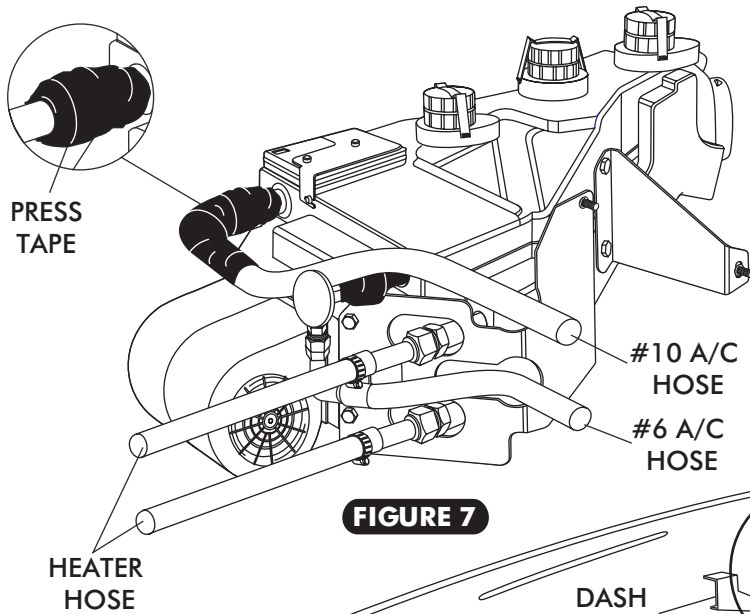
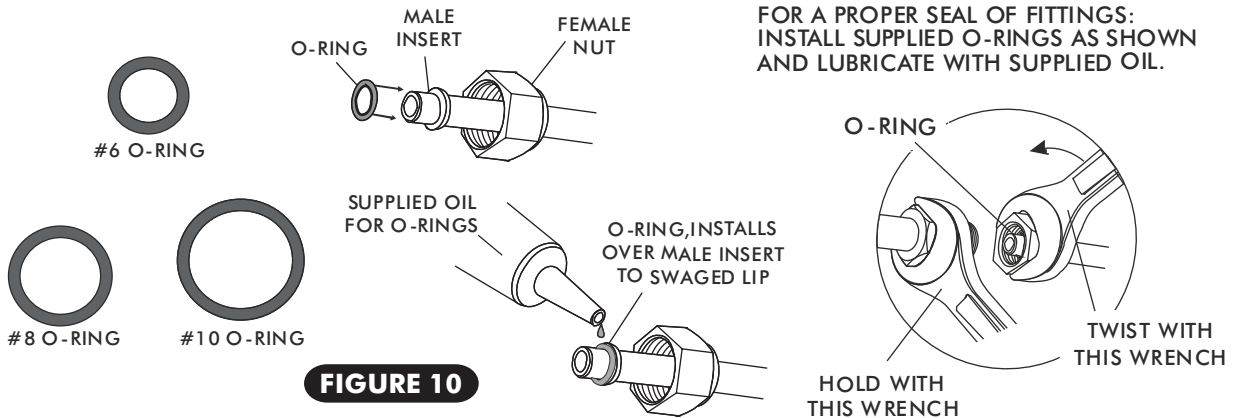
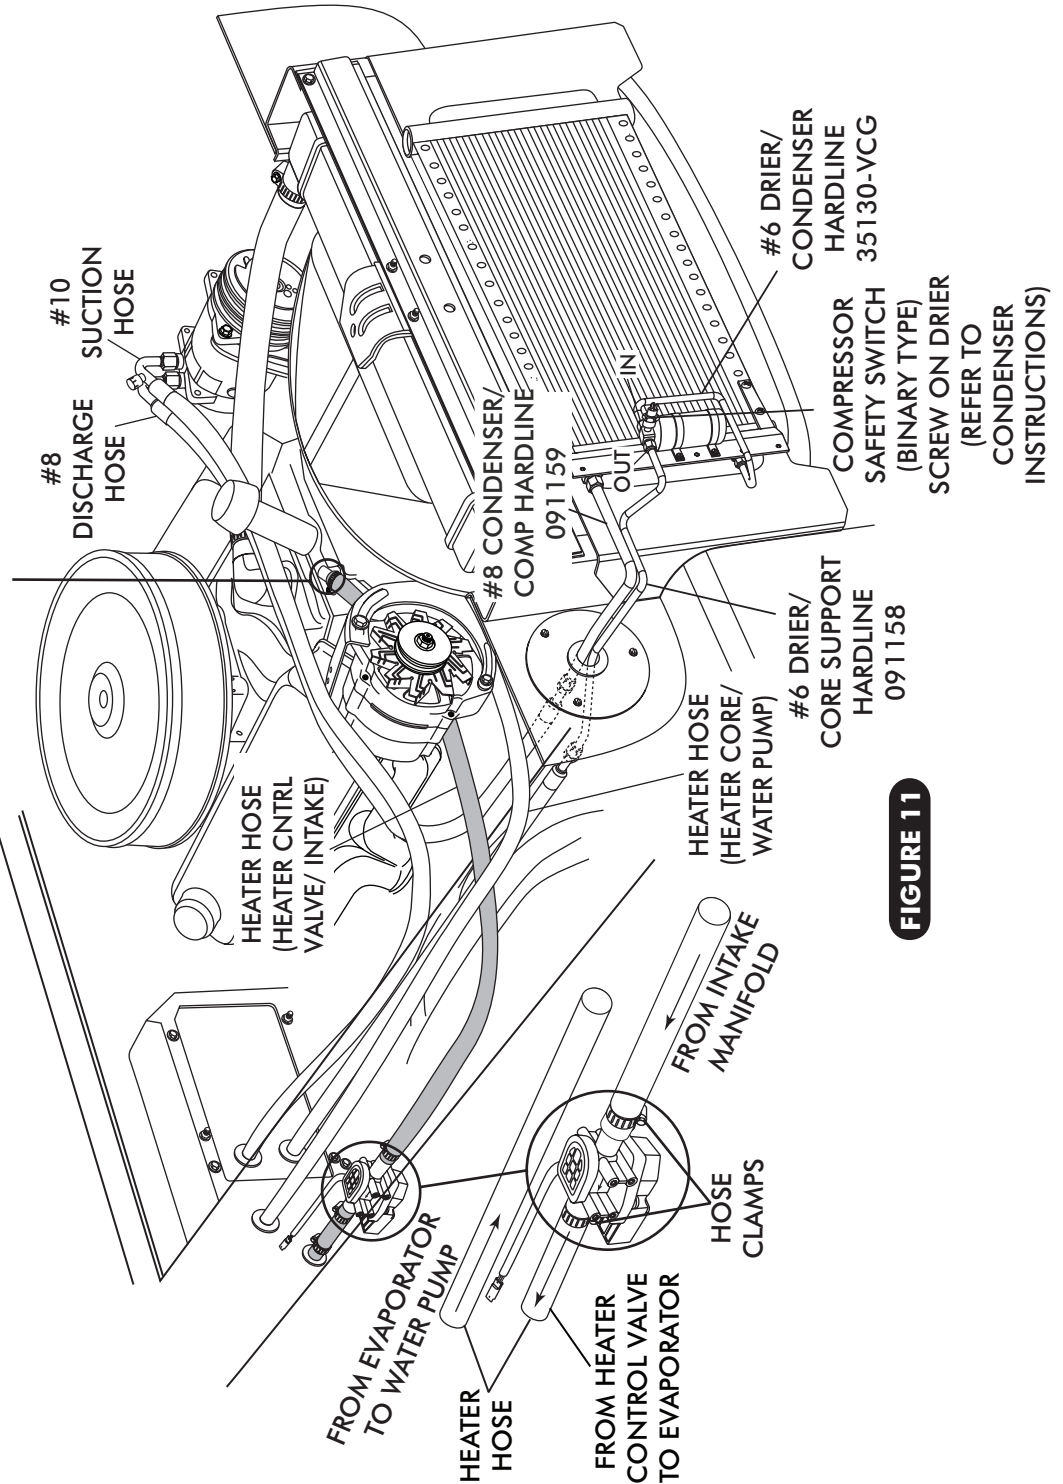
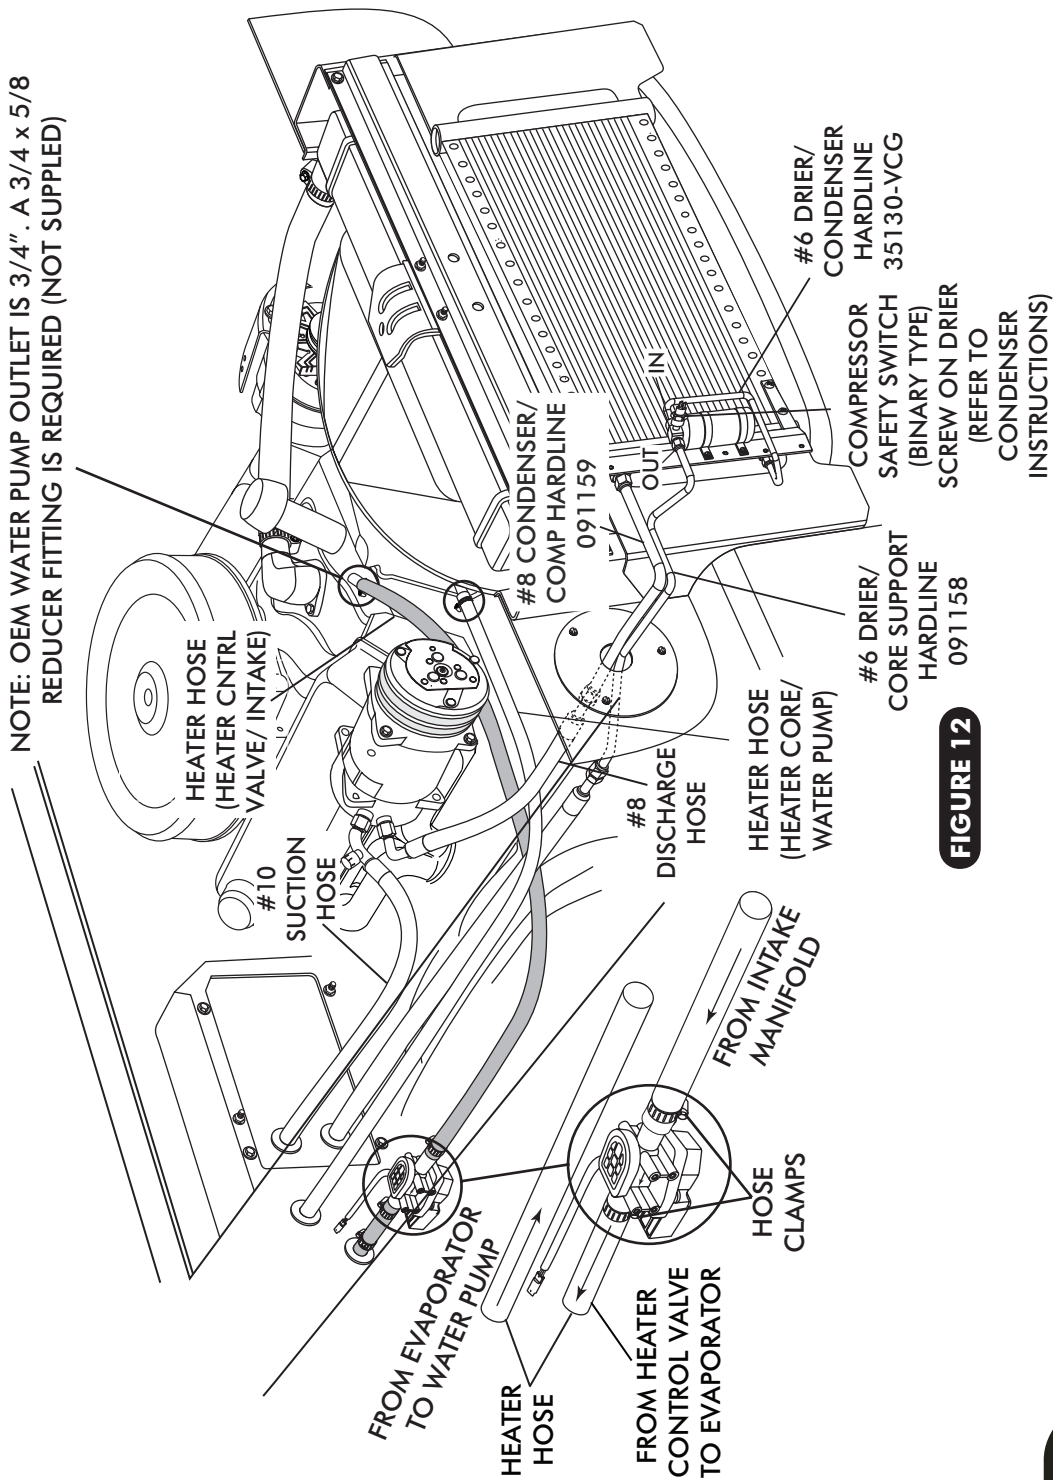

FIGURE 7
FIGURE 10
FIGURE 11
FIGURE 12
- ON A WORK BENCH INSTALL (2) HEATER FITTINGS WITH PROPERLY LUBRICATED O-RINGS. (SEE FIGURE 10, PAGE 12, AND FIGURE 6, PAGE 10.)
- LAY EVAPORATOR SUBCASE ON PASSENGER SIDE FLOOR BOARD. INSTALL A/C & HEATER HOSE ON EVAPORATOR AS SHOWN IN FIGURE 7, PAGE 11 AND HOSE INSTALLATION ON PAGE 13 AND PAGE 14.
- **(NOTE: WRAP THE #10 FITTING CONNECTIONS WITH PRESS TAPE. SEE FIGURE 7, PAGE 11.)**
- LOCATE THE #8 COMPRESSOR A/C HOSE. LUBRICATE (2) #8 O-RINGS (SEE FIGURE 10, ABOVE) AND CONNECT THE 90° FEMALE FITTING TO THE #8 DISCHARGE PORT ON THE COMPRESSOR. ROUTE THE STR FEMALE FITTING w/ 134a SERVICE PORT TO THE #8 CONDENSER HARDLINE COMING THROUGH CORE SUPPORT. SEE FIGURE 11 PAGE 13 AND FIGURE 12 PAGE 14. TIGHTEN EACH FITTING CONNECTION AS SHOWN IN FIGURE 10 ABOVE.
- LOCATE THE #10 COMPRESSOR A/C HOSE. LUBRICATE (2) #10 O-RINGS (SEE FIGURE 10, ABOVE) AND CONNECT THE #10 135° FEMALE FITTING w/134a SERVICE PORT TO THE #10 SUCTION PORT ON THE COMPRESSOR. ROUTE THE 135° FEMALE FITTING TO THE #10 EVAPORATOR. SEE FIGURE 11, PAGE 13 AND FIGURE 12, PAGE 14. TIGHTEN EACH FITTING CONNECTION AS SHOWN IN 10 ABOVE.
- LOCATE THE #6 EVAPORATOR A/C HOSE. LUBRICATE (2) #6 O-RINGS (SEE FIGURE 10, ABOVE) AND CONNECT THE STR FEMALE FITTING TO THE DRIER. ROUTE THE 90° FEMALE FITTING TO THE #6 EVAPORATOR. SEE FIGURE 11, PAGE 13 AND FIGURE 12, PAGE 14. TIGHTEN EACH FITTING CONNECTION AS SHOWN IN FIGURE 10, ABOVE.
- ROUTE A PIECE OF HEATER HOSE FROM THE WATER PUMP TO THE TOP HEATER FITTING OF HEATER CORE AS SHOWN IN FIGURE 7, PAGE 11 AND FIGURE 11 BELOW. SECURE USING HOSE CLAMPS.
- ROUTE A PIECE OF HEATER HOSE FROM THE INTAKE TO THE BOTTOM HEATER FITTING OF HEATER CORE AS SHOWN IN FIGURE 7, PAGE 11 AND FIGURE 11, BELOW. INSTALL HEATER CONTROL VALVE IN-LINE WITH INTAKE MANIFOLD (PRESSURE SIDE) HEATER HOSE, SECURE USING HOSE CLAMPS AS SHOWN IN FIGURE 11, BELOW. **NOTE PROPER FLOW DIRECTION.**
- ROUTE A PIECE OF HEATER HOSE FROM THE WATER PUMP TO THE TOP HEATER FITTING OF HEATER CORE AS SHOWN IN FIGURE 7, PAGE 11 AND FIGURE 12 BELOW. SECURE USING HOSE CLAMPS.
- ROUTE A PIECE OF HEATER HOSE FROM THE INTAKE TO THE BOTTOM HEATER FITTING OF HEATER CORE AS SHOWN IN FIGURE 7, PAGE 11 AND FIGURE 12, BELOW. INSTALL HEATER CONTROL VALVE IN-LINE WITH INTAKE MANIFOLD (PRESSURE SIDE) HEATER HOSE, SECURE USING HOSE CLAMPS AS SHOWN IN FIGURE 12, BELOW. **NOTE PROPER FLOW DIRECTION.**